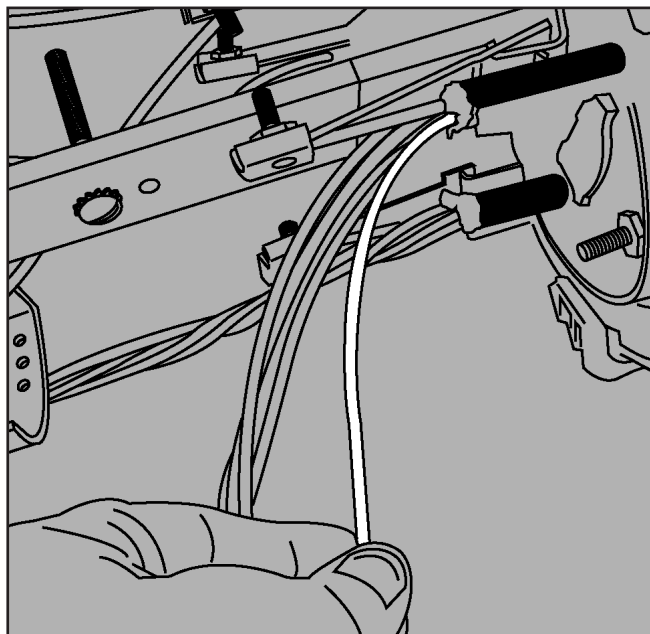

Figure 1
1. From the expressed cable loop, identify and select the loose buffer tube with the fibers required for distribution and separate from the main group. (Figure 1)